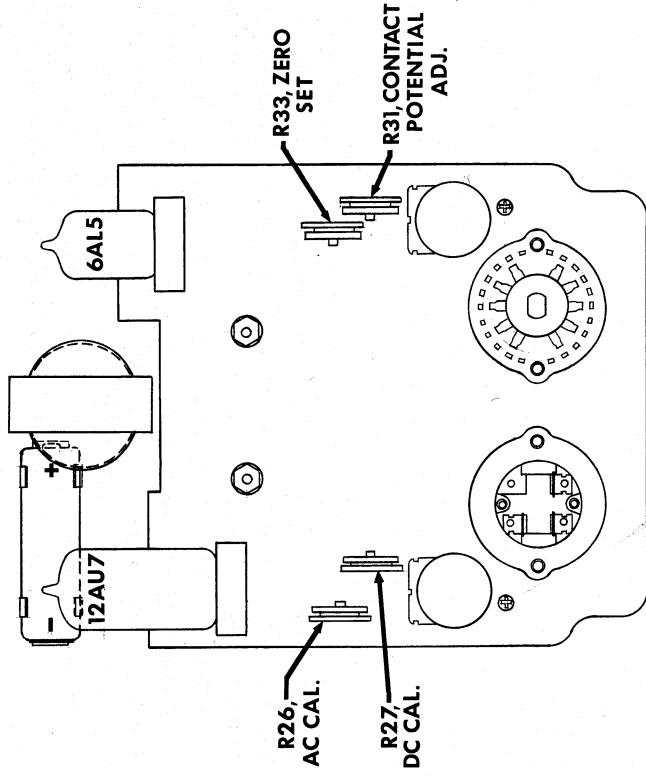

FIGURE 3 CALIBRATION ADJUSTMENT LOCATION AND ALKALINE CELL ORIENTATION
deflection with the OHMS ADJUST control, with test probes separated and the function switch at OHMS, replace alkaline cell with a fresh equivalent. This cell is a size AA, alkaline, flashlight type cell. (Although a standard AA dry cell may be used in emergencies, its use is not recommended because short cell life and low accuracy will always result for the resistance measurement function). Open the case for access and observe the polarity of the old alkaline cell in its clamp. Observe this polarity when you mount the new alkaline cell in the clamp. See figure 3 if additional assistance is needed.
2. Turn the ZERO ADJUST knob to the extreme left and note the position of the indicator pointer. Return the indicator pointer to zero. Set the function switch to +DC and turn the ZERO ADJUST knob to the extreme right and again note the indicator pointer position. The pointer position should be the same for both polarities. If there is any difference between them, adjust potentiometer R₃₃ until the readings are the same. See Figure 3 to help locate potentiometer R₃₃ inside the instrument.
4. Set the function switch to the AC position and set the switch on the probe handle to AC. If the pointer does not rest at zero, adjust potentiometer R_{31} to correct this error. See Figure 3 to help locate potentiometer R_{31} inside the instrument.
5. Set the function switch to -DC and set the switch on the probe to DC again. Connect the probes to a known value of DC voltage. Check the indicator reading. If it is not correct, adjust potentiometer R_{27} to calibrate the instrument. See Figure 3 to help locate potentiometer R_{27} inside the instrument.
6. Set the function switch to AC and set the switch on the probe to AC. Connect the probes to a known value of AC voltage. (See page 13.) Check the indicator reading. If it is not correct, adjust potentiometer R_{26} to calibrate the instrument. See Figure 3 to help locate potentiometer R_{26} inside the instrument.
Two tubes are used in the 303-2. One tube is a 6AL5, used as a peak rectifier for all AC voltages. The other tube is a 12AU7, which is used in the bridge circuit for all measurements. See Figure 3 for the tube locations.